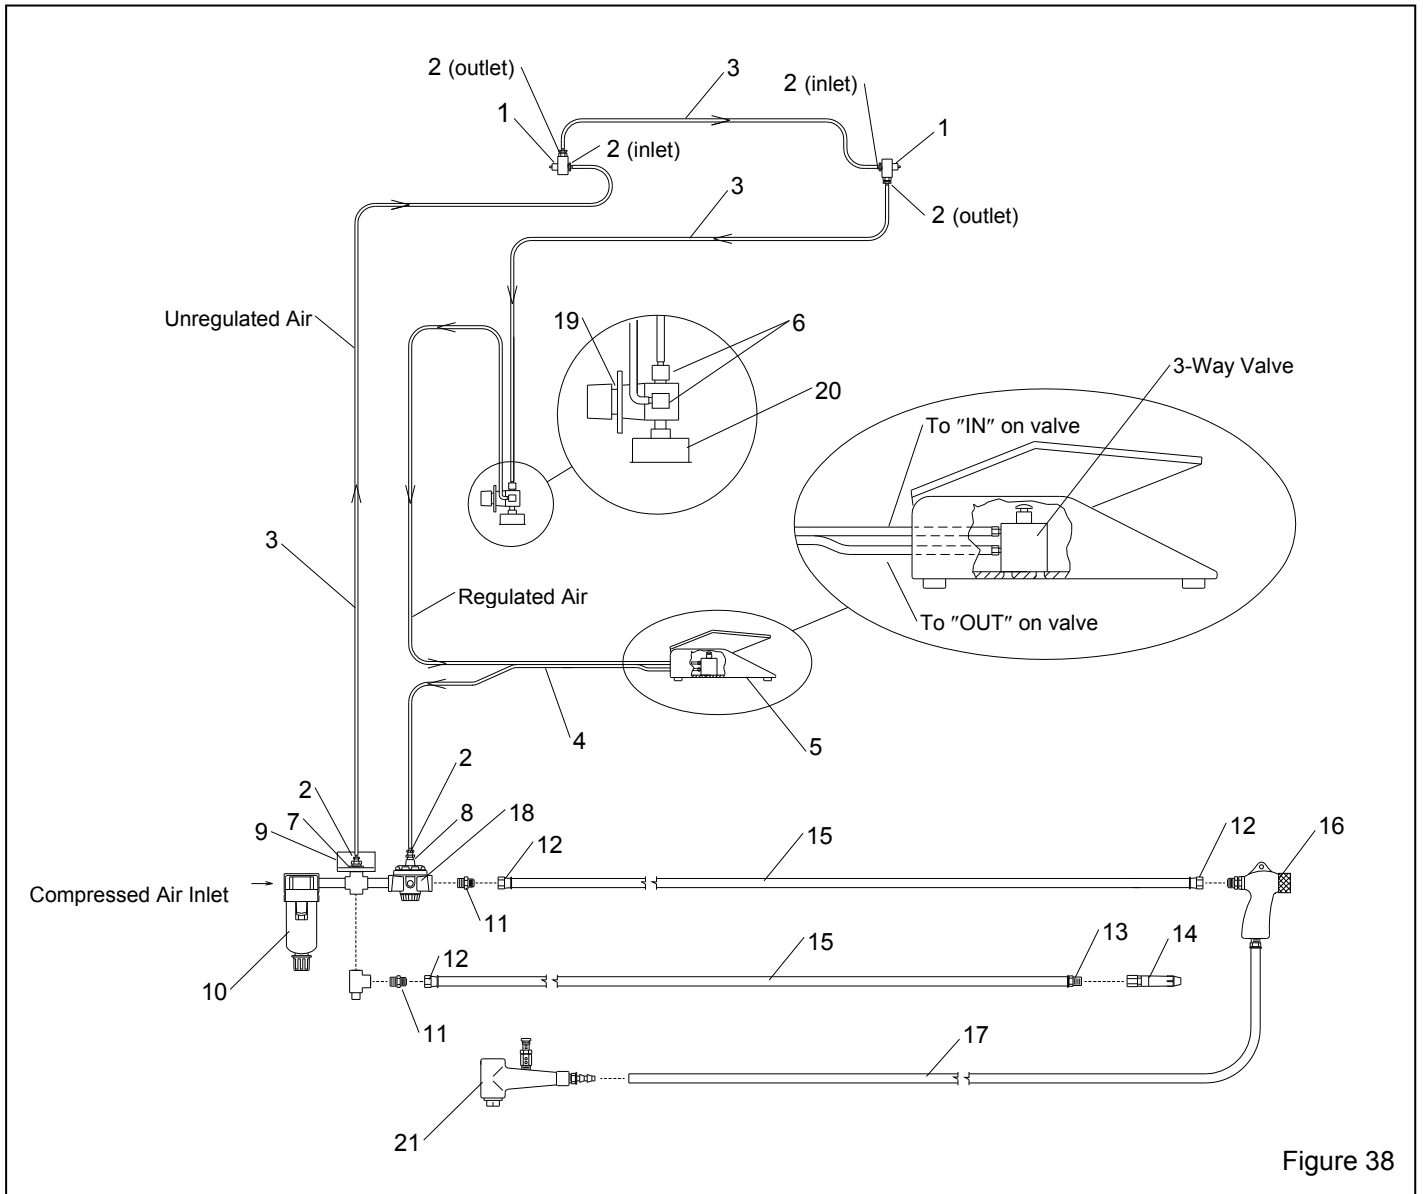

Figure 38
9.9 Cabinet Plumbing Assembly, Figure 38